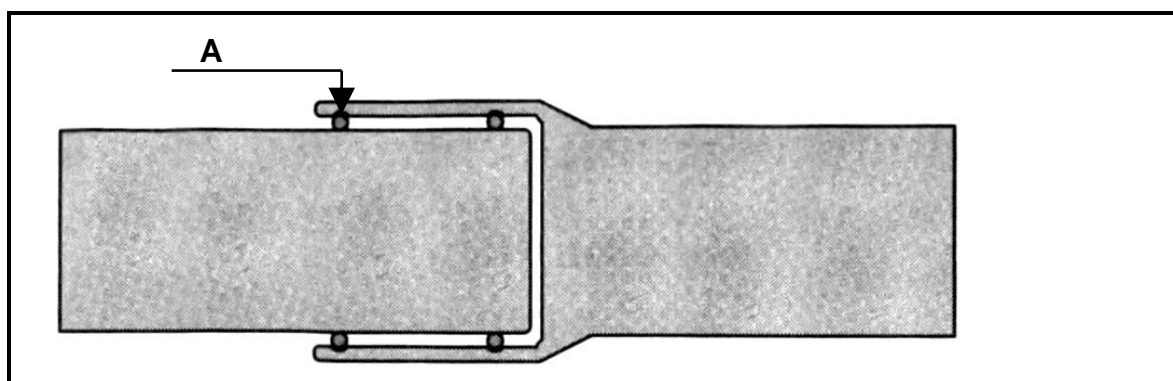

FIGURE 5.3
5.3 Answer the following questions with regard to the drain pipe joint in FIGURE 5.3.